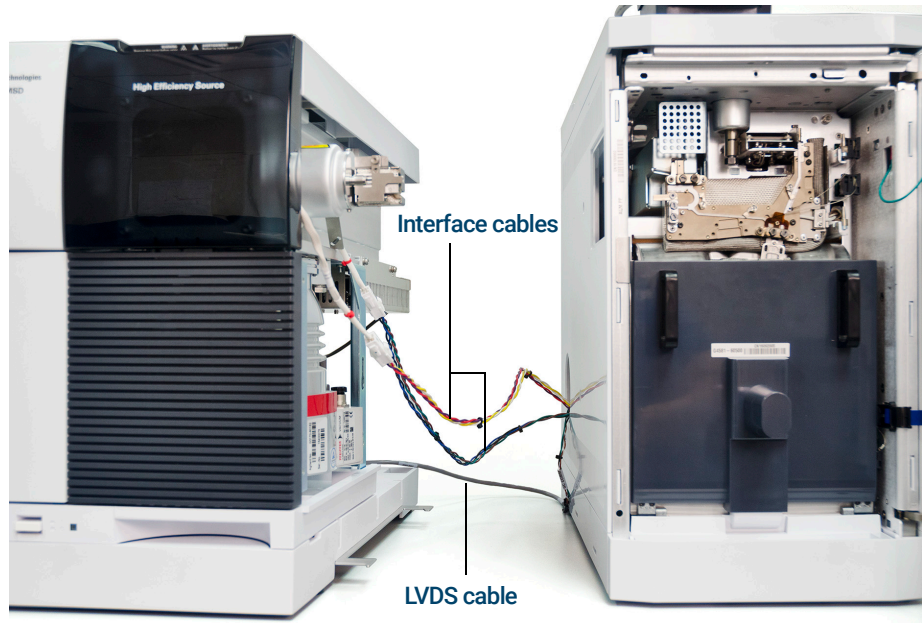

Figure 5. GC/MSD interface heater cables and LVDS cable
- 5 Slide the MSD backwards, and then away from the GC until you have access to the GC/MSD cables. (See **Figure 5** on page 92.)
- 1 Position the MSD so the end of the GC/MSD interface is near the GC. (See **Figure 5** on page 92.)